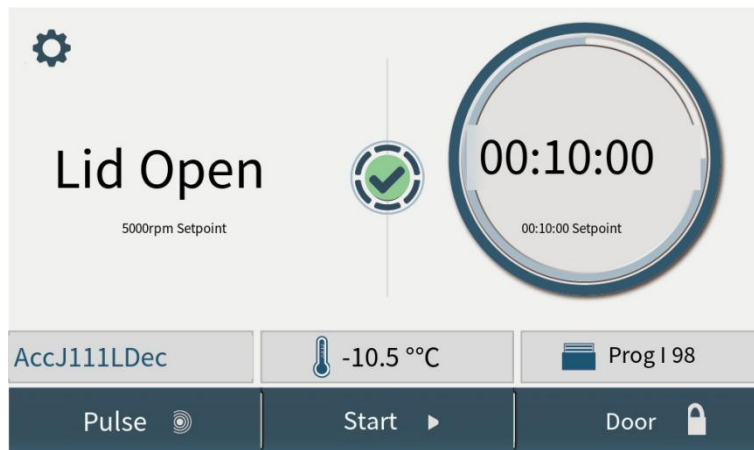
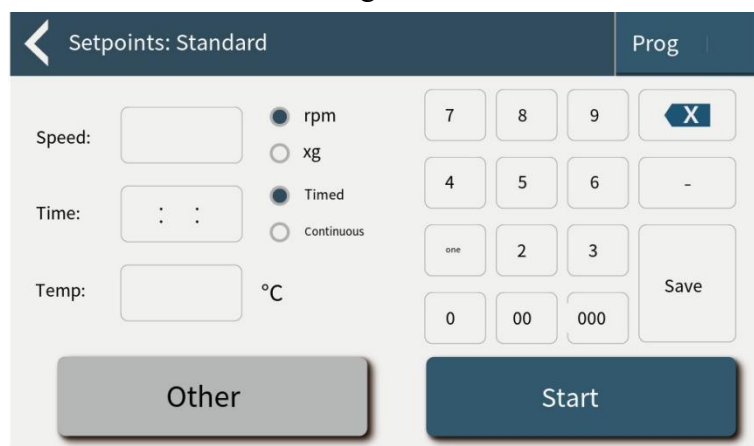

Figure 1
Figure 2
- 1) Set running parameters: Click the icon in the upper left corner of the screen or any parameter icon (as shown in Figure 1) to enter the setting interface I (as shown in Figure 2), this interface can adjust the speed, running time, cooling temperature (air cooling model does not have this), select the